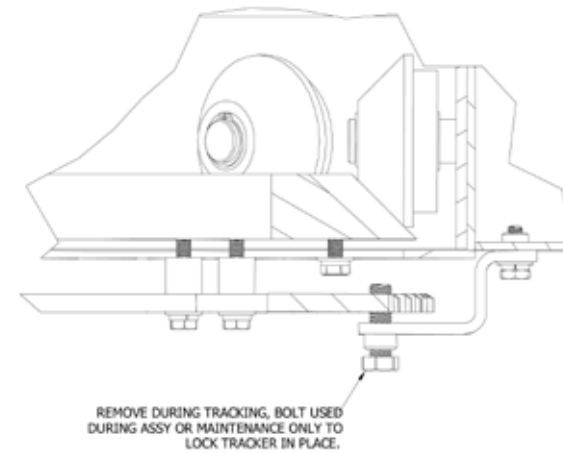

Figure 7
12. Install the hard stop bracket using the parts in the hard stop hardware package. Attach the bracket to the bottom of the frame as shown in Figure 7. Use two $\frac{1}{4}$ "-20 X $\frac{3}{4}$ " bolts, flat washers and lock washers.